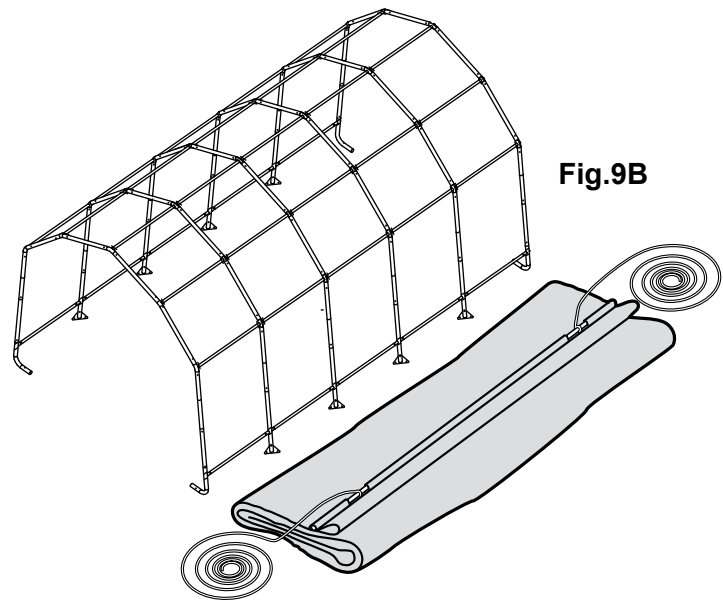

Fig.9B
**B.** Fold over the side closest to the frame so the pipe pocket is now accessible. Insert a cover pipe at the first middle rib from the front and the first middle rib from the rear so that it is inserted in the pipe pocket on both ends of the pipe but the center of the pipe is exposed. For long buildings it may be necessary to use additional pipes in the middle. Fig. 9B.